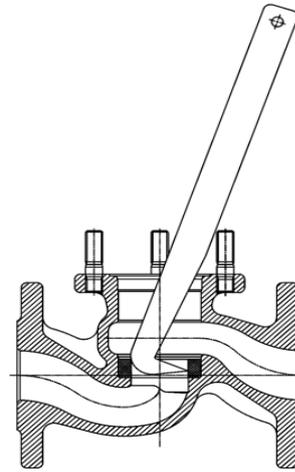

Figure 3
- » Remove the lower valve ring (Pos. 9) by means of a ring extractor hook without damaging the surface of the body's bore (see Fig. 3)